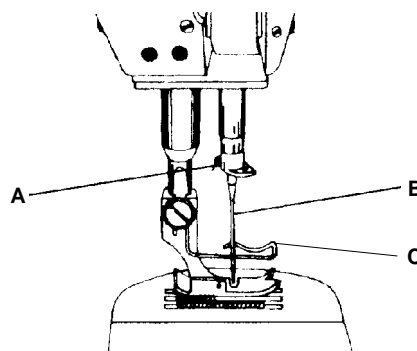

Fig. 4
Do not use this sewing machine without using the finger guard (C, Fig. 4) and without the take-up lever guard (P, Fig. 2).
6.3 Needle insertion (Fig. 4)